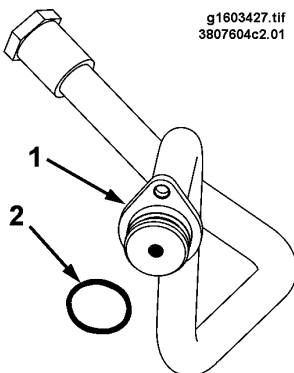

Figure 27 Typical Coolant Line Peanut Fitting
Some heater line connections now employ a peanut fitting (1, Figure 27) that is sealed with an O-ring (2) and secured with one nut. Before installing a peanut fitting always verify that a new O-ring is in place.